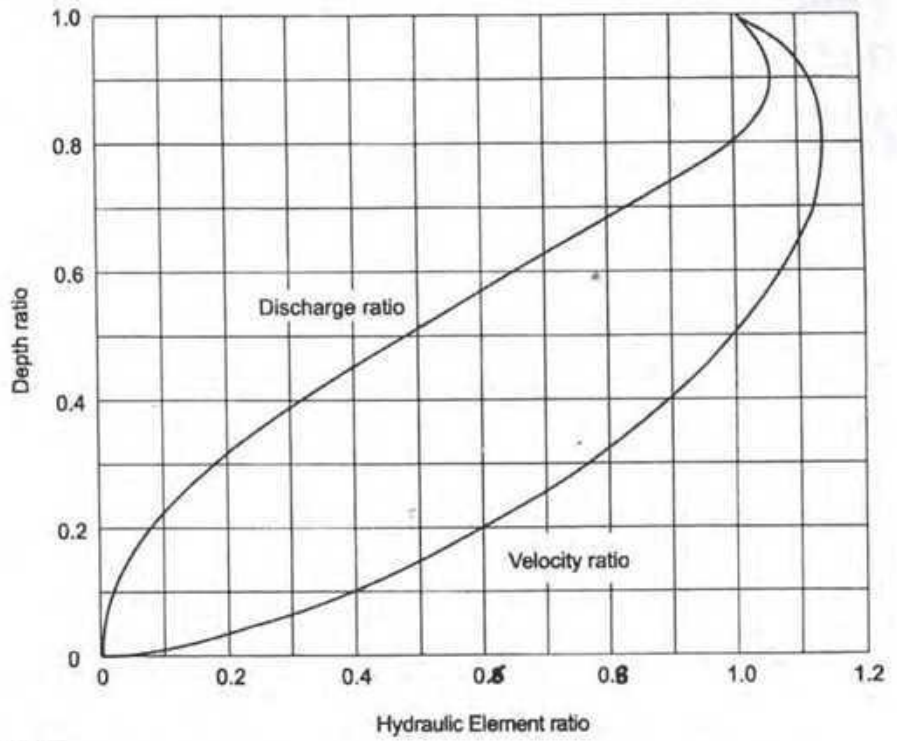

Figure 1: Hydraulic Element Diagram for Circular Sewer
- (c) Determine the rate of discharge in a 25 cm circular sewer laid on a slope of 0.004. The roughness coefficient of sewer material is 0.013 and the depth of flow through the sewer is 9 cm. Also determine the velocity of flow through the sewer. Use the Hydraulic Elements Diagram (Figure 1) attached with the question. 15